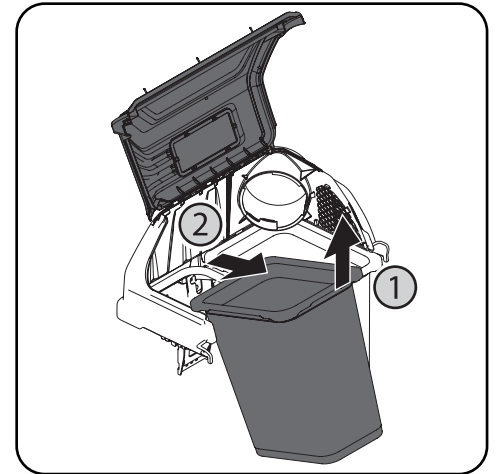

Figure 5-4
3. Remove both bag assemblies from the bag support brackets by lifting the front edge up first, and then sliding the back edge forward and up until it is clear of the frame. See Figure 5-4.